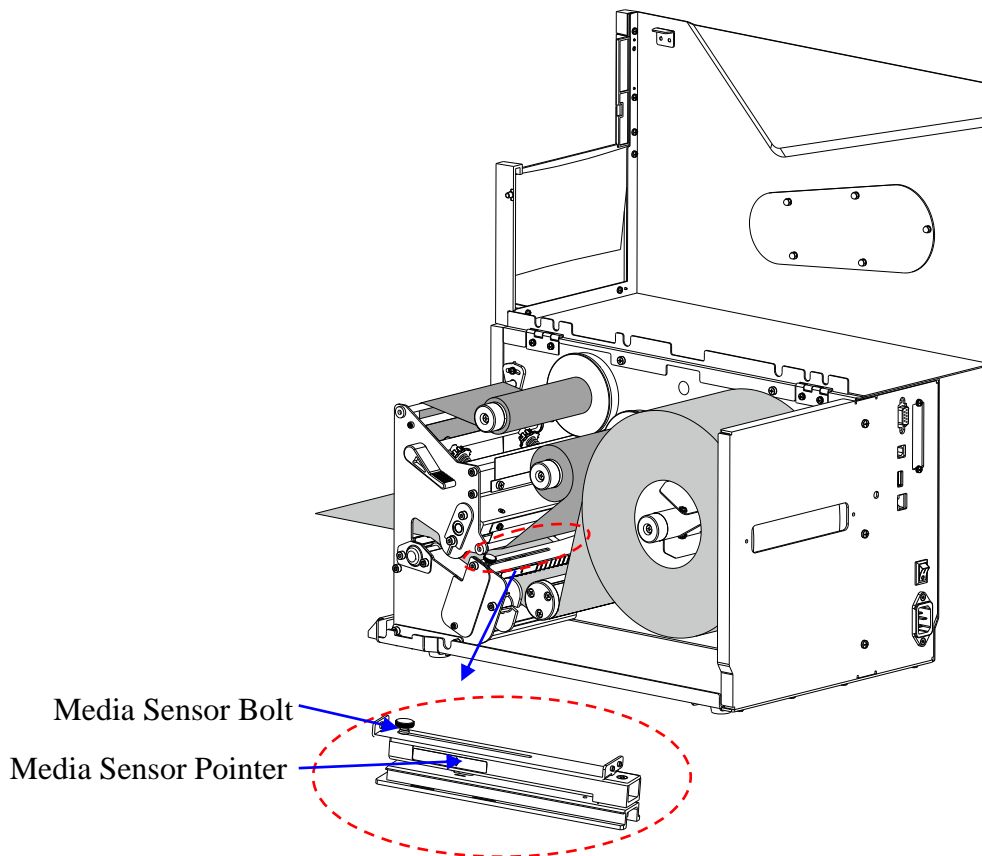

Figure 2-13 Adjust the Media Sensor Position
4. Adjust the Media Sensor Position. Loosen the Media Sensor Bolt and move the Media Sensor to the appropriate position, See Figure 2-13. Adjust the Media Sensor to ensure that its position is directly over the gap, hole, notch or black mark.